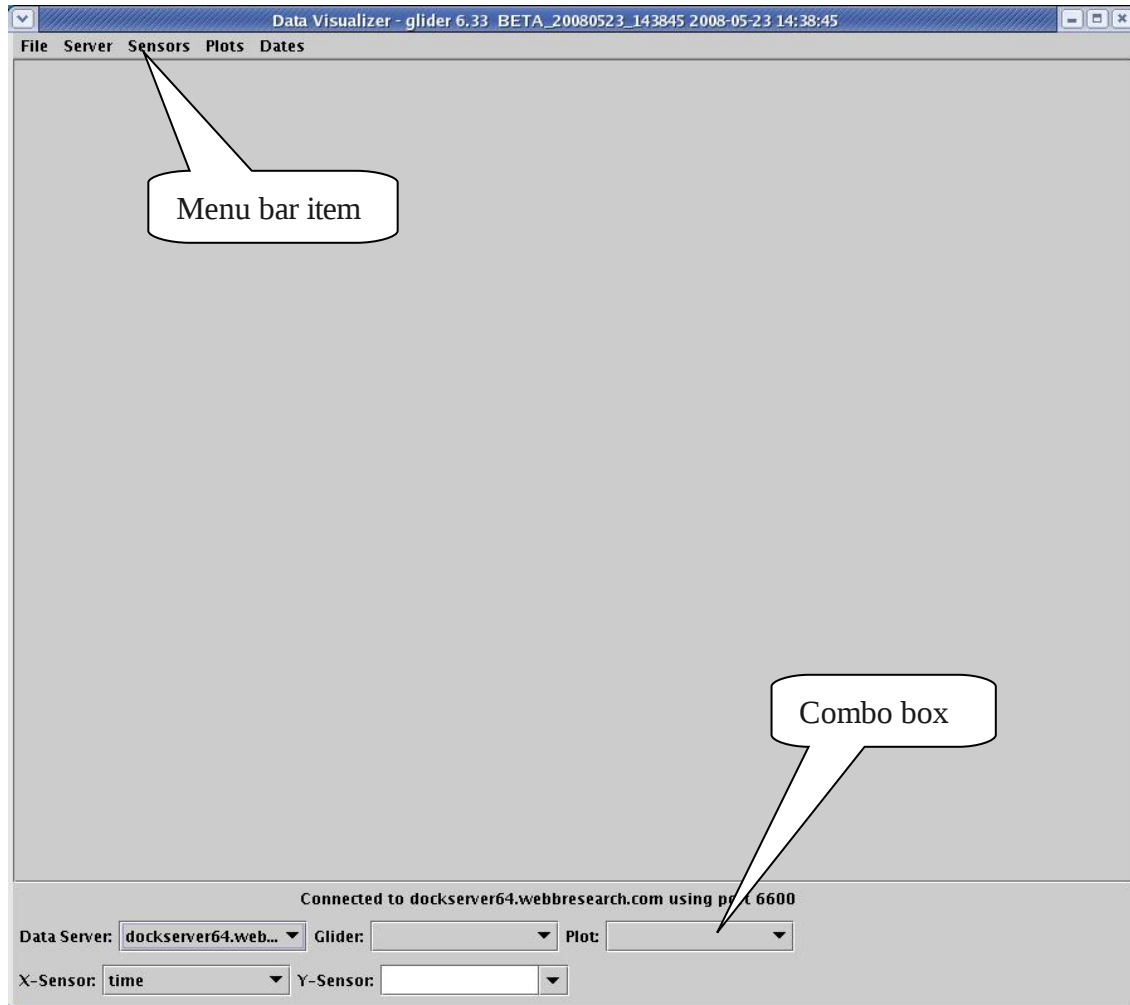

Figure 10-1. Data Visualizer Main Window.
1. Double click the desktop icon labeled “Data Visualizer” or select the item labeled “Data Visualizer” from the “All Programs” menu (Windows XP). The Data Visualizer window should appear (Figure 10-1).
When launched for the first time, Data Visualizer attempts to connect to the machine from which it was Web Started. For example, Figure 10-1 shows a Data Visualizer connected to dockserver64.webbresearch.com. When further launched, Data Visualizer attempts to connect to the machine last selected for connection.
The Data Visualizer user interface (shown without displayed data in Figure 10-1) relies on the following controls and output: